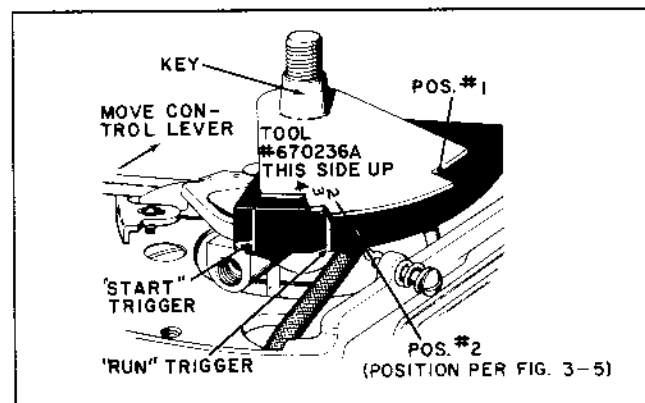

Figure 3-8. Idle (pickup) Position
6.(a) Move the control lever to align the "RUN" trigger of the ignition unit with the tool at the proper position pointed out in Fig. 3-5, depending upon engine type. Hold this position. (Fig. 3-8 shows example of type 639).